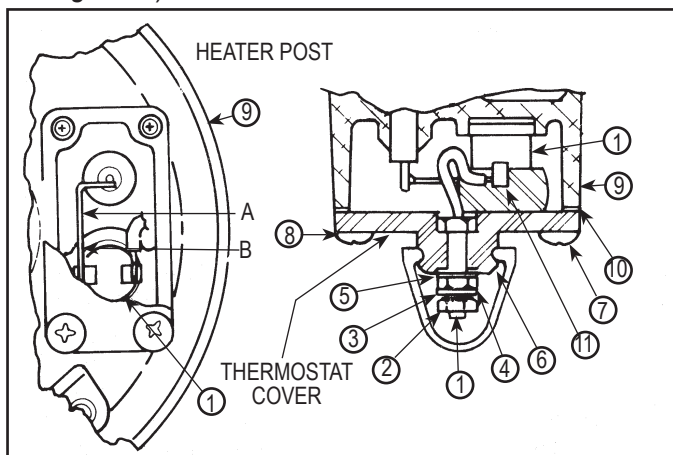

Figure 17 – Heater and Thermostat
NOTE: If during the serviceability checks it was determined that the thermostat was defective, use the following procedure. It is not necessary to replace this unit each time the end cover is rebuilt. To service, install the thermostat kit as shown in Figure 17.
9. Remove nut (2), then lock washer (3), plain washer (4) and o-ring (5). Discard o-ring and retain other parts.
10. Remove and retain the four Phillips head screws (7) and cover (6).
11. Remove and discard gasket (10).
12. Remove and retain spacer (11).
13. Cut uninsulated thermostat wire at Point B. (Figure 17), remove and discard the thermostat and terminal assembly (1).
15. Clean the thermostat "pocket" in the end cover (9).
1. Cut the uninsulated lead of new thermostat (1) at Point A (Figure 17).
4. Install thermostat terminal (1) in cover (6).
5. Install o-ring (5), washer (4), lock washer (3) and nut (2). Torque nut to 20-30 in-lbs.
6. Install spacer (11) over thermostat (1).
7. Install gasket (7) and cover (6) and secure cover to end cover (9) using screws (7) and lock washers (8).
- A. At a temperature above 85°F, check resistance between thermostat terminal (1) and end cover (9). Resistance should be 200,000 ohms or greater; if not, check for solder "path" short.